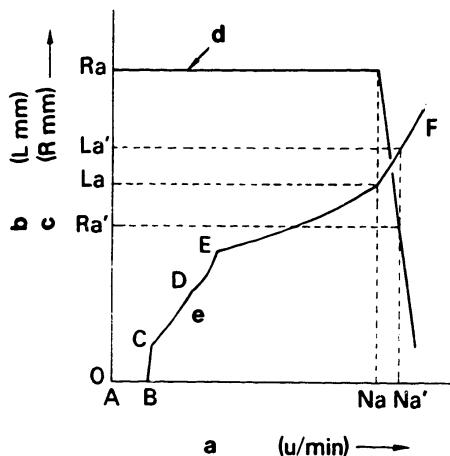

Fig. 15
Figure 15 shows the relationships between fuel injection pump speed, flyweight lift and control rack position.
The idling spring and governor spring of the RLD governor do not provide an initial setting force; when the flyweight lift is 0 as shown in Fig. 15, only the start spring provides the initial setting force. Therefore, flyweight lift begins at a speed greater than the pump speed (B), which produces the centrifugal force necessary to overcome the initial setting force of the start spring. As engine speed increases, the flyweight's centrifugal force exceeds the setting forces of the idling and governor springs (Fig. 15 B to F); the maximum lift of the flyweight is 13 mm. Flyweight lift results in movement of the tension lever by way of the shifter, with guide lever movement following. Guide lever movement results in movement of the floating lever, which then moves the control rack in the opposite direction.